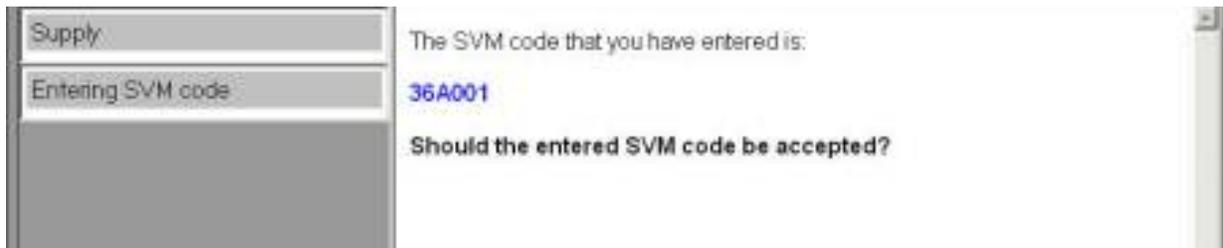

Figure 6. Entering SVM code.
6. Enter SVM code 36A001 (Figure 6). Refer to the SVM table at the bottom of this section for software information.